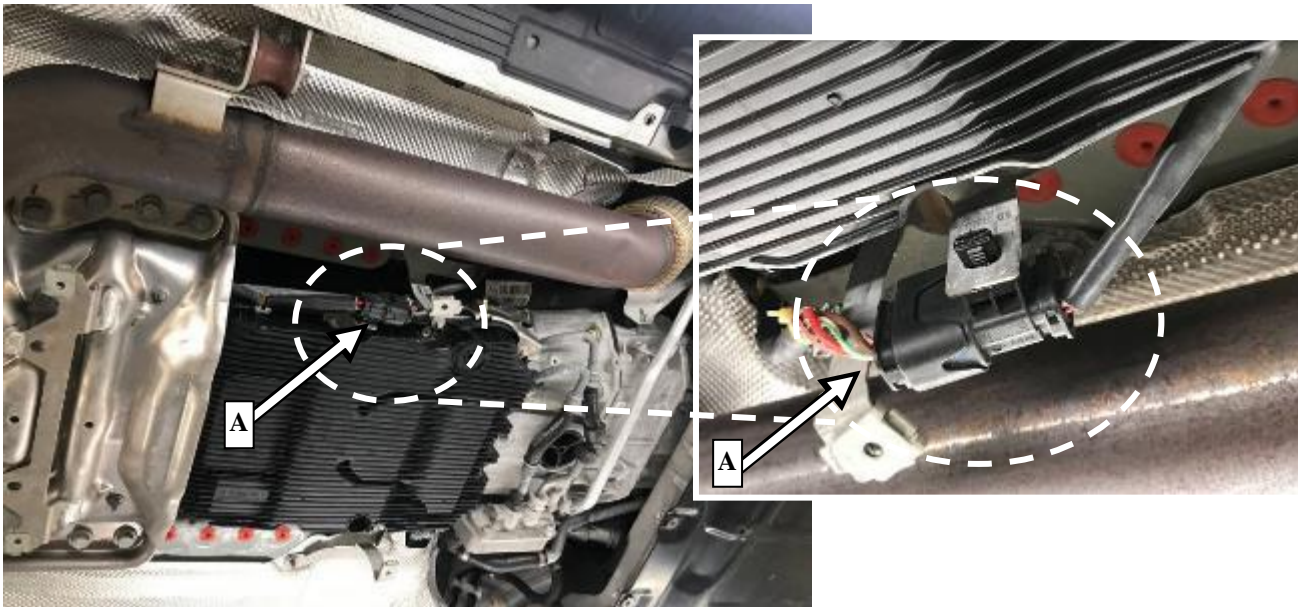

Figure 1
2. Disconnect electrical connector **X279** (A, Figure 1) from right oil pan.